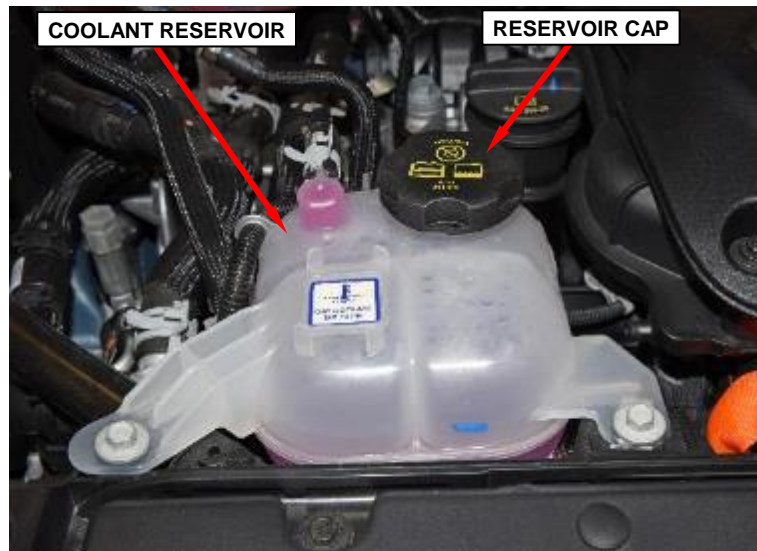

Figure 44 – Power Electronics Coolant Reservoir
63. Add MS.12106 engine coolant to the power electronics cooling system pressurized coolant reservoir through the filler neck until the coolant level reaches the MAX level of the coolant reservoir (Figure 44).